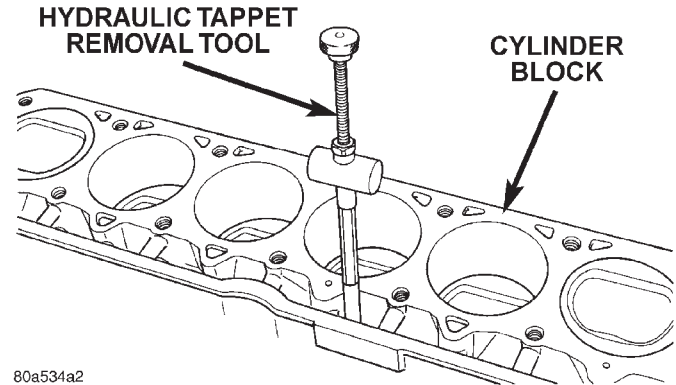

Fig. 37 Hydraulic Valve Tappet Removal—Installation Tool
- (1) Remove the engine cylinder head (Refer to cylinder head r&i in this section).
- (2) Remove the push rods.
- (3) Remove the tappets through the push rod openings in the cylinder block with a Hydraulic Valve Tappet Removal/Installation Tool (Fig. 37).